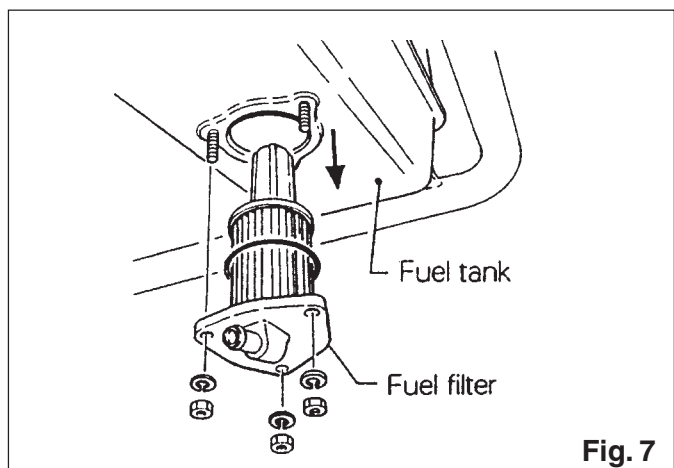

Fig. 7
- Remove the fuel filter cap and inspect for dirt in the fuel tank. (Fig. 7)